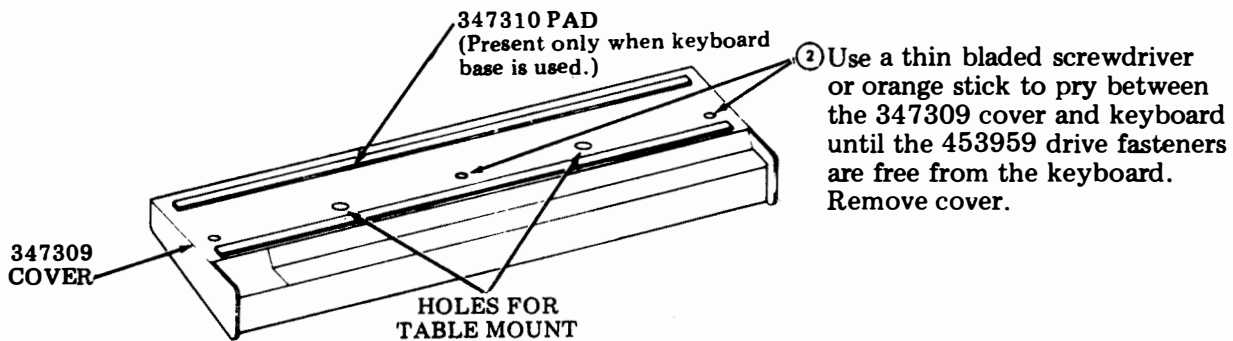

Fig. 3
3.04 Removal of 347309 plastic cover and 453959 fasteners. See Fig. 3.
- ① Taking care not to damage keytops, place keyboard on a clean even surface with the keytops facing down as shown.